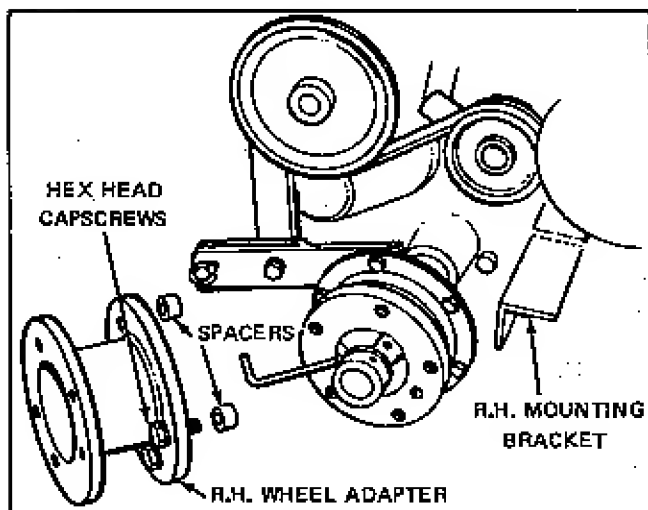

Figure 2.
The right wheel adapter requires the (5) No. 105133 spacers using the (5) 7/16 x 20 x 1-1/2" hex head capcrew. See Figures 2 and 3.